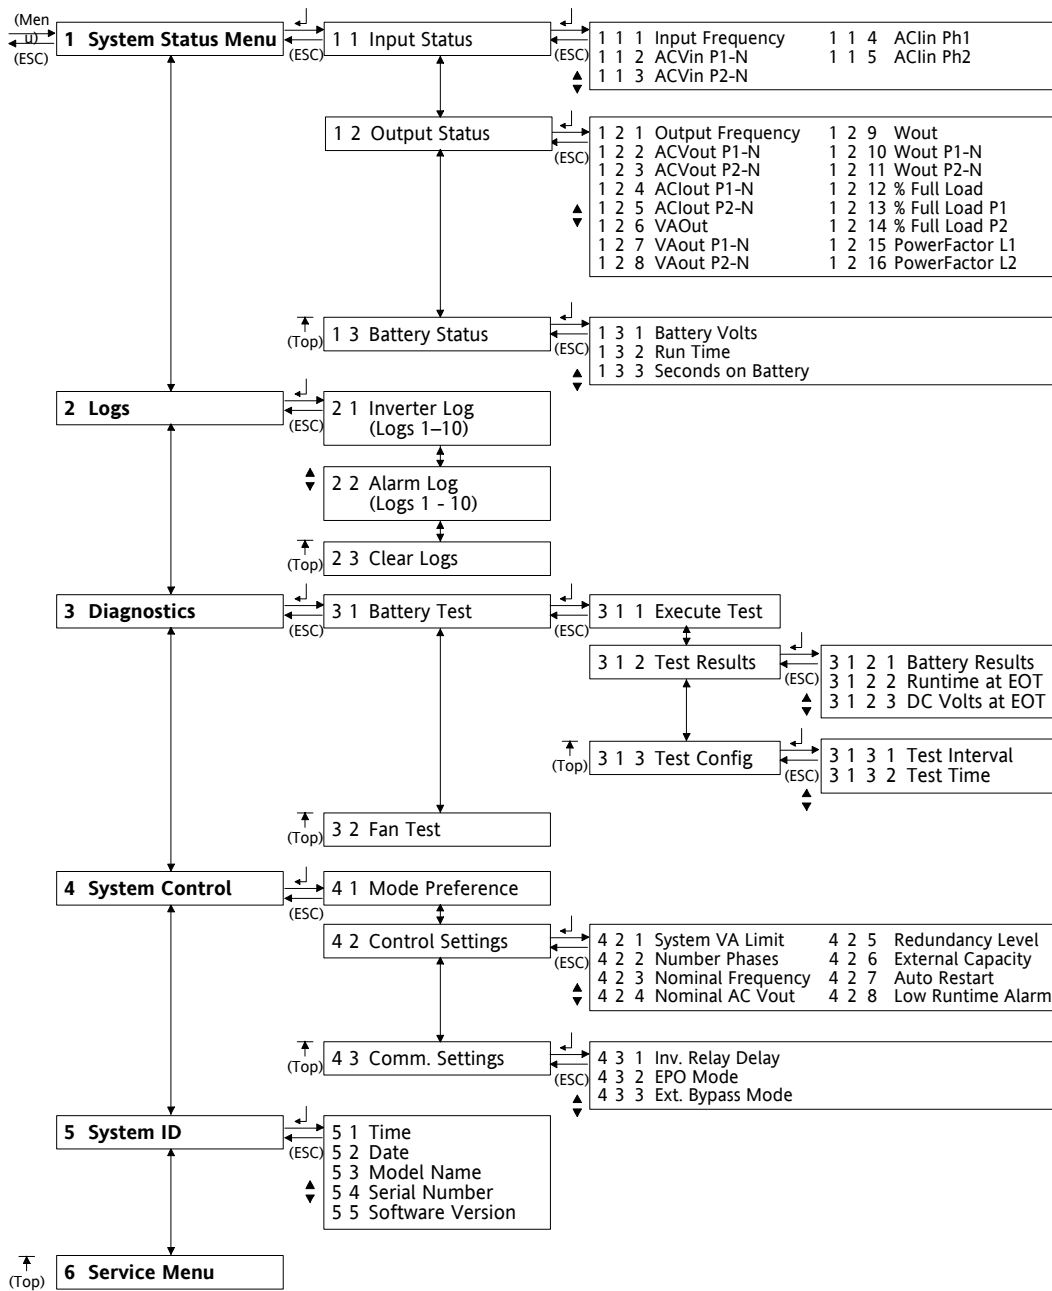

Figure 60. Powerware 9170+ System Menu Map
One or two triangles at the right of the display tells you which arrow buttons are active for moving to various parameters within a menu level. See Figure 60 on page 85 for the complete system menu.
Use the Menu map (Figure 60 on page 85) to find the parameter you need to change, and move through the menu structure until the parameter name appears on the display.
Figure 60 is an illustration of how to access all Powerware 9170+ system parameters. The menu structure has 6 primary-level menus, named System Status Menu (1) through Service Menu (6). Under each primary menu are secondary items, each numbered by its location under the primary menu. Use the various buttons as shown in the map to navigate to the desired parameter.